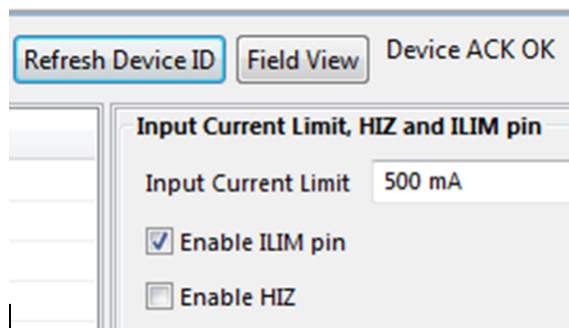

Figure 9. Select Field View
11. Choose *Field View*, as shown in Figure 9. The main window of the bq2589x software is shown in Figure 10.